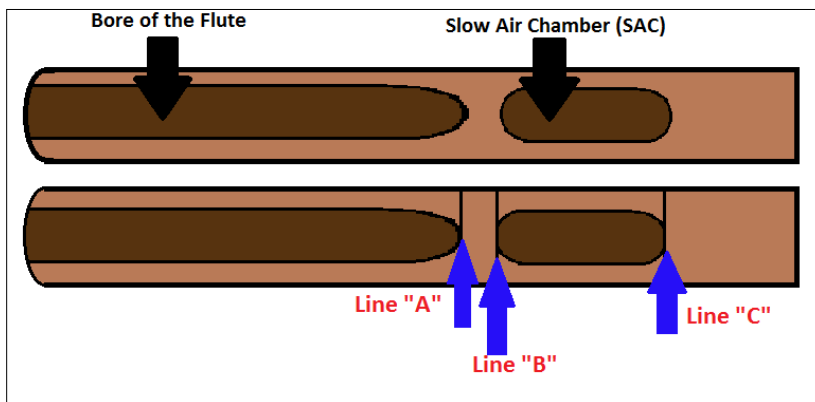

Figure 1
1.) Find the center of the board by using a square and making sure that there is an equal amount of wood on either side of the pencil. Draw this line all the way up and down one side. (Refer to Figure 1)